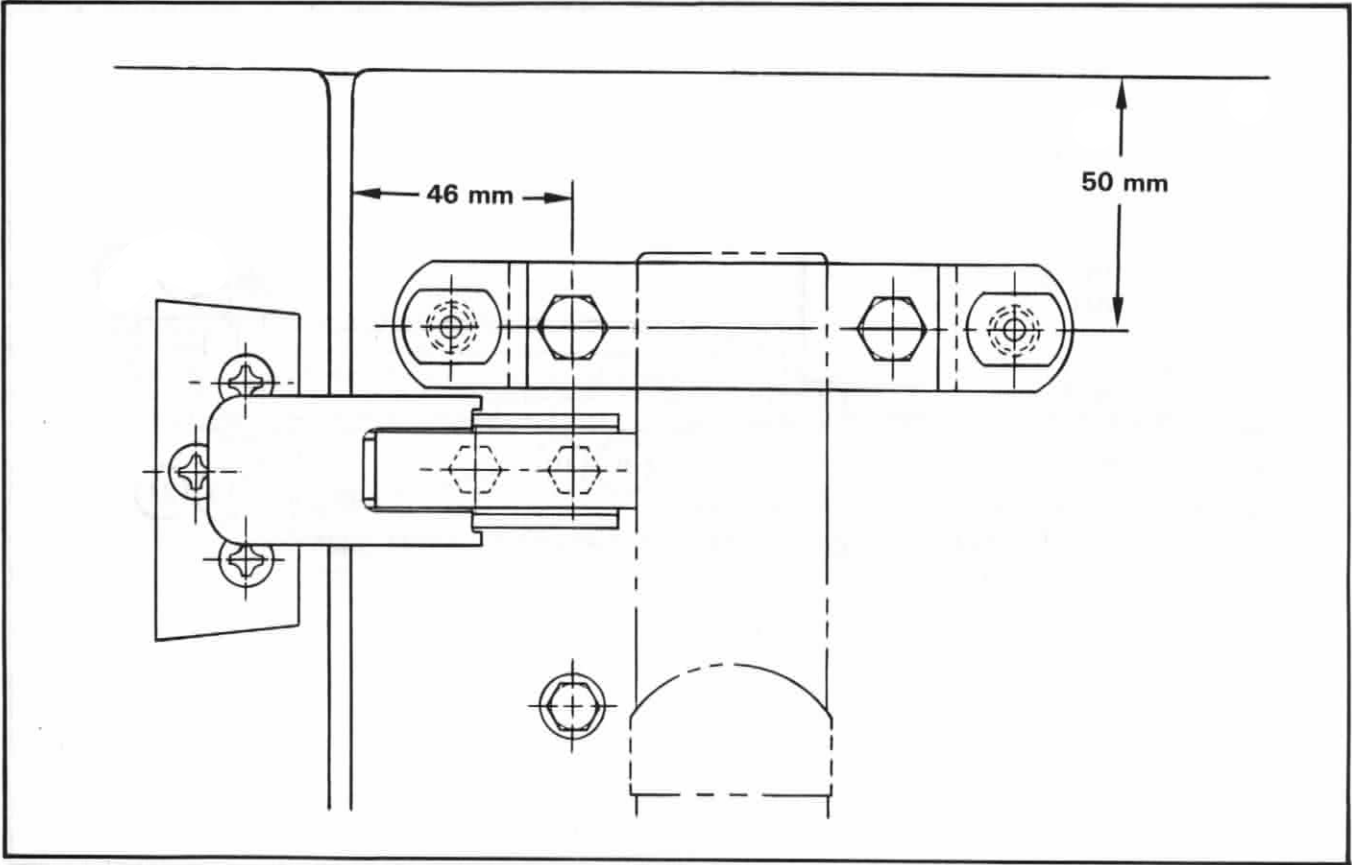

Figure 8 Measuring Location of Fuel Can Strap Retainer
- f. See Figure 8. Measure and scribe the location of the fuel can strap retainer on the upper left corner of the tailgate, above the latch assembly.